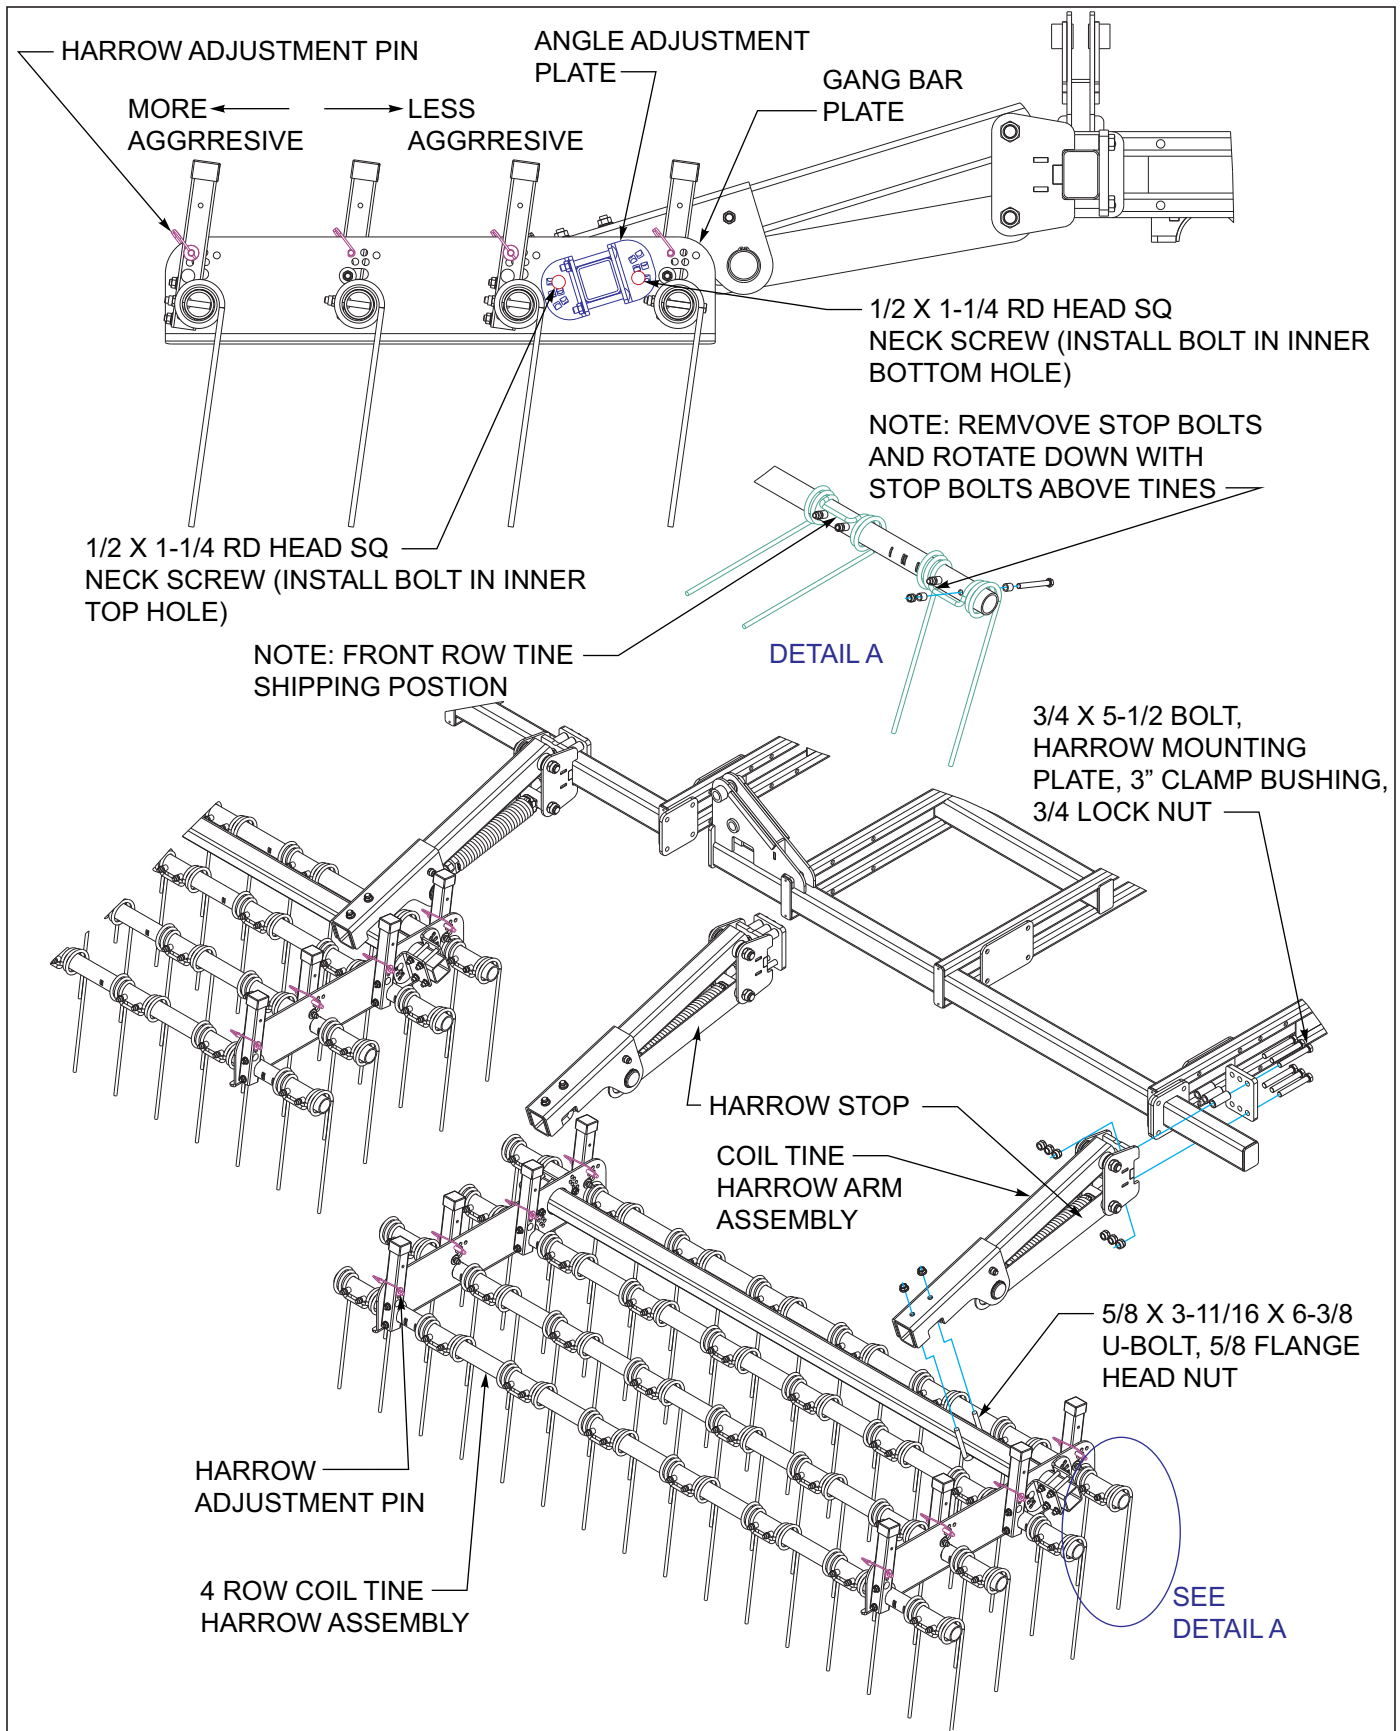

Figure 3-30: 4 Row Coil Tine Harrow Installation
1. Attach coil tine harrow arms to the rear of the field cultivator See Figure 3-30, according to placement dimensions. Clamp bushings are installed on the top mounting bolts.
3. Front row tines are assembled with the tines above the stop bolts to prevent damage when shipping See Figure 3-30 Detail A. Remove front tine bolts and reinstall, with stop bolts above tines.